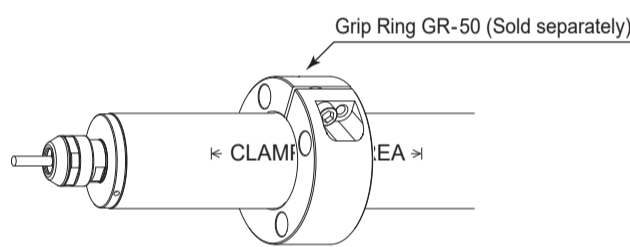

Fig. 14
- * When installing a motor spindle, use a "Grip Ring GR-50 (sold separately (Fig. 14))" recommended. If the Grip Ring GR-50 (sold separately) cannot be used due to the restriction of dimension and space, install as shown in 2 below.